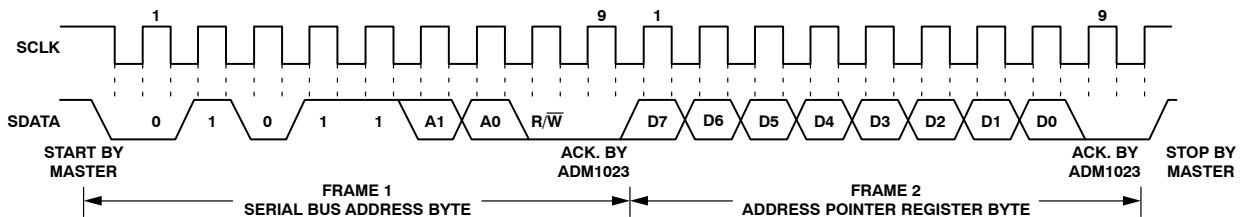
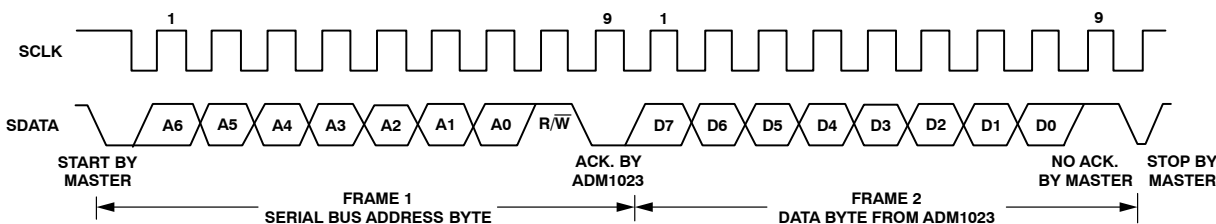

Figure 16. Writing to the Address Pointer Register Only
Figure 17. Reading Data from a Previously Selected Register
1. If the ADM1023's address pointer register value is unknown or not the desired value, it is necessary to set it to the correct value before data can be read from the desired data register. This is done by performing a write to the ADM1023 as before, but only the data byte containing the register read address is sent, as data is not to be written to the register. This is shown in Figure 16. A read operation is then performed consisting of the serial bus address, $R/\overline{W}$ bit set to 1, followed by the data byte read from the data register. This is shown in Figure 17.